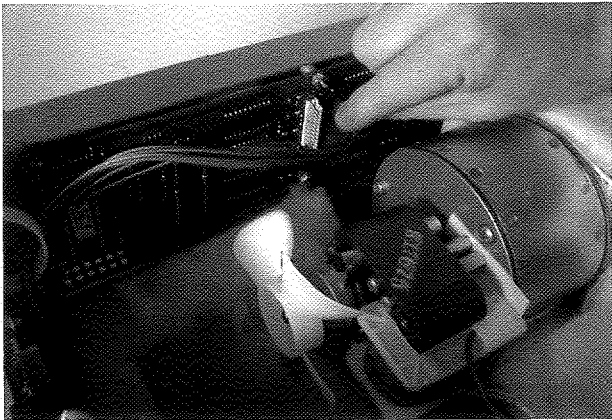

Figure 17
2. Unplug circuit board from display. See Figure 17)